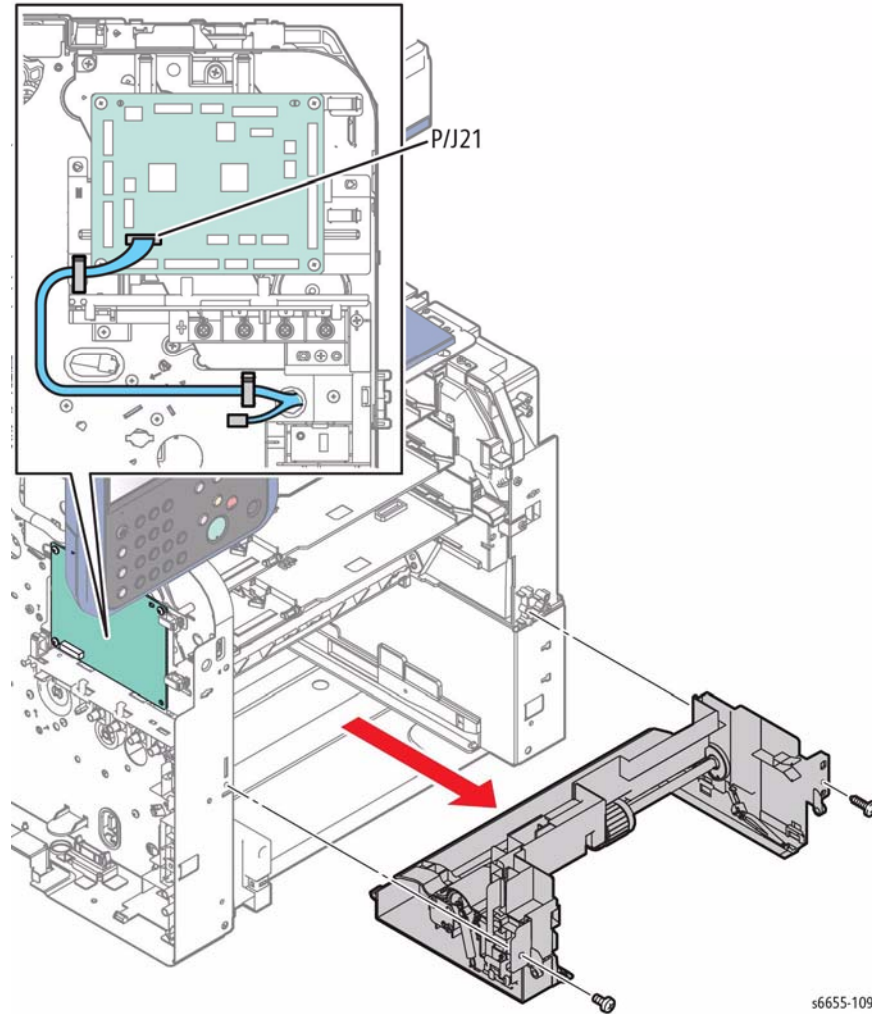

Figure 2 Remove the Bypass Tray Frame Assembly
3. Refer to Figure 2 to locate and unplug connector P/J21 from the MCU Board, and release the harness from the clamps.